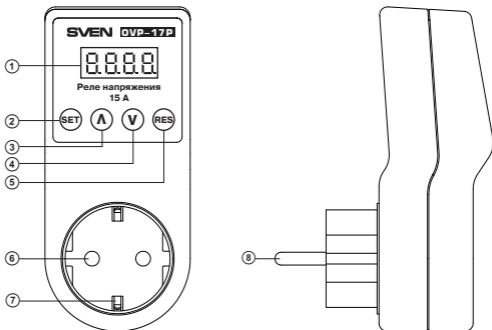

Fig. 1
**Design description** (Fig. 1)
- ① Four-digit LED indicator to display voltage value of the power supply network, values of parameters being set and the voltage relay status indication
- ② SET: button to enter the programming mode and select programmable parameters
- ③  $\Lambda$ : button to increase the value of a parameter being set
- ④ V: button to decrease the value of a parameter being set
- ⑤ RES: reset button
- ⑥ Protective shutters
- ⑦ Grounding contacts
- ⑧ Wall plug to connect the voltage relay to ~220 V power supply network socket